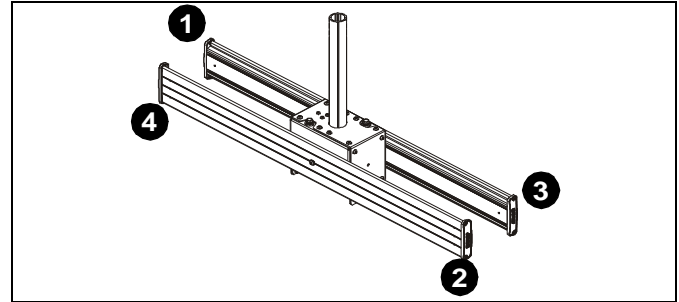

Figure 7
**IMPORTANT ! :** Install displays by placing the first display on the mount, and then adding the second display on the other side of the mount at the opposite end of the mount. Repeat for remaining displays. (See Figure 7)